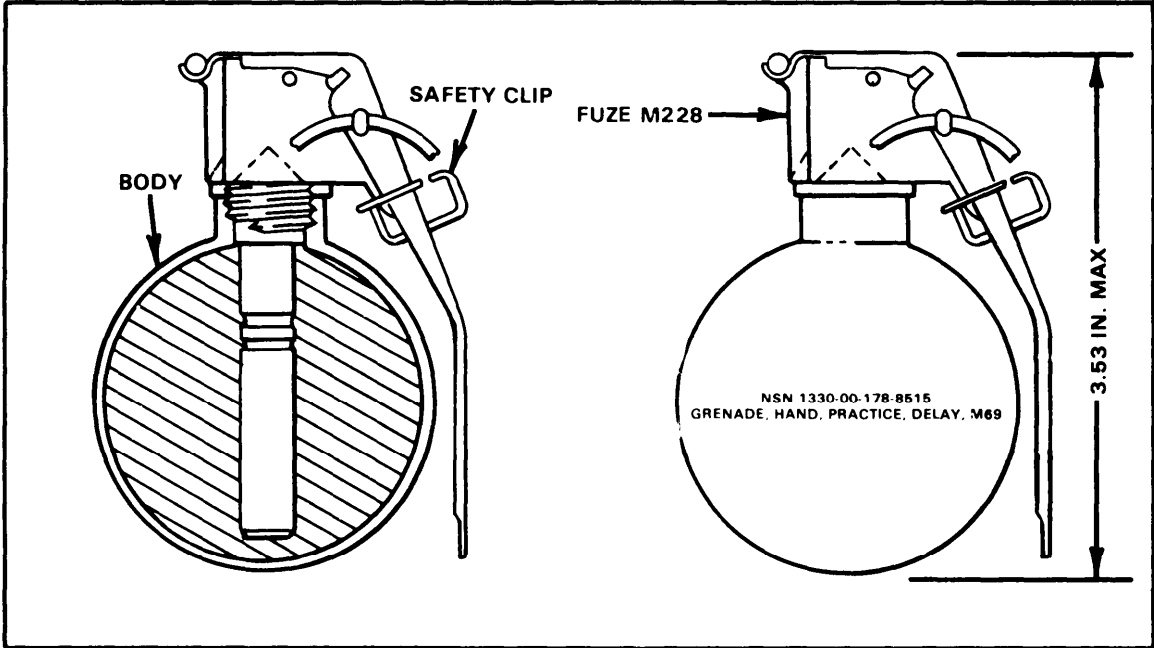

Figure 1-18. M69 practice grenade.
c. Practice (Figure 1-18). the M69 practice hand grenade simulates the M67-series of fragmentation hand grenades for training purposes. The grenade provides realistic training and familiarizes the soldier with the functioning and characteristics of the fragmentation hand grenade.
- (1) Body -- steel.
- (3) Fuze -- M228, inserted into grenade body.
- (4) Weight -- 14 ounces.
- (5) Safety clip -- yes.
- (6) Capabilities -- can be thrown 40 meters by average soldier. The M69 grenade emits a small puff of white smoke after a delay of 4 to 5 seconds and makes a loud popping noise. The grenade body can be used repeatedly by replacing the fuze assembly.
- (7) Color/markings -- light blue with white markings. The safety lever of the fuze is light blue with black markings and a brown tip.